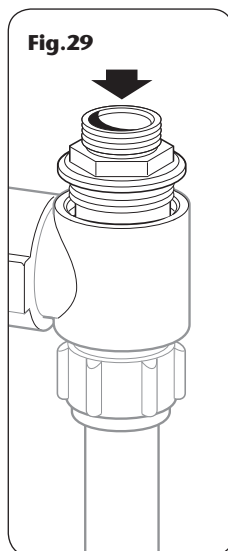

Fig.29
- c. Screw the supplied flushing cartridge into the elbow until tight (**fig.29**).